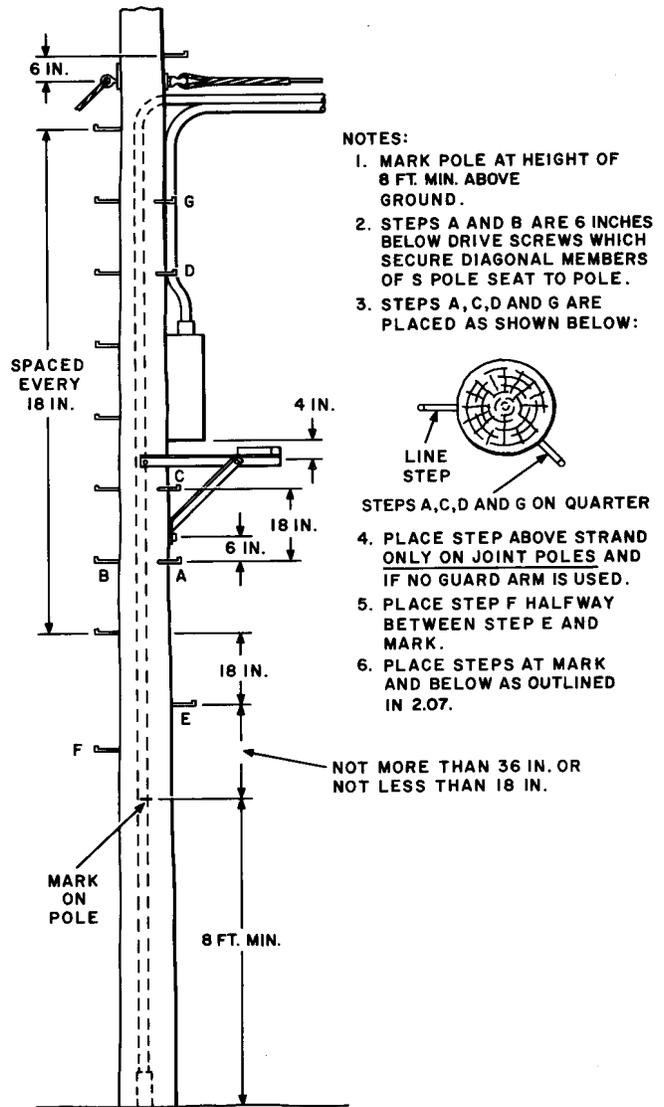

Fig. 16—Steps for Cross-Connect Terminals
7.02 For cross-connect terminals step pole as shown in Fig. 16.